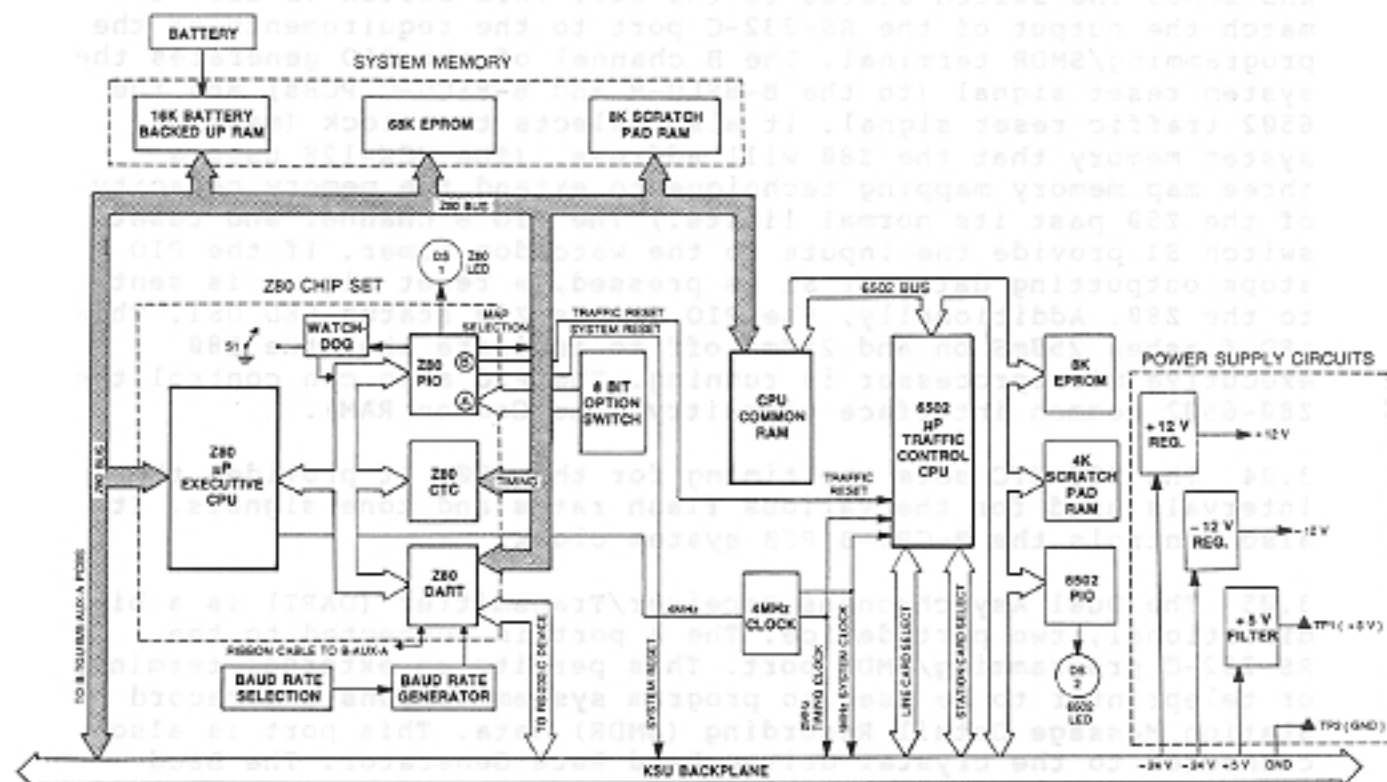

Figure 8-6 B-CPU-B CENTRAL PROCESSING UNIT PCB BLOCK DIAGRAM, TCX-128
3.01 The B-CPU-B PCB (Figure 8-6) contains the microprocessors, memory elements and control circuits that allow all system traffic to be under direct executive program control. The B-CPU-B is structured around the Z80 executive microprocessor and the 6502 traffic control microprocessor, communicating with each other through common interface circuitry (the Common RAM).